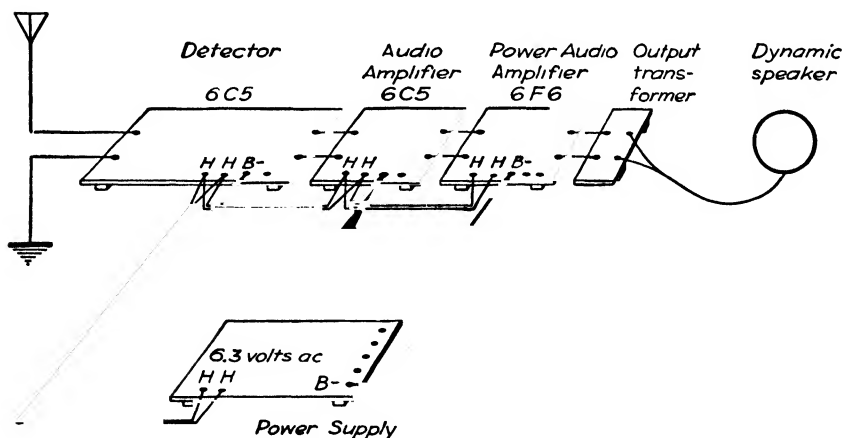

FIG. 320. Connect the B-negative wires.
Step 3. Connect together the B-minus posts of all boards. Run a wire from the B-minus on the power supply to the B-minus on any one of the three set boards (see Fig. 320).